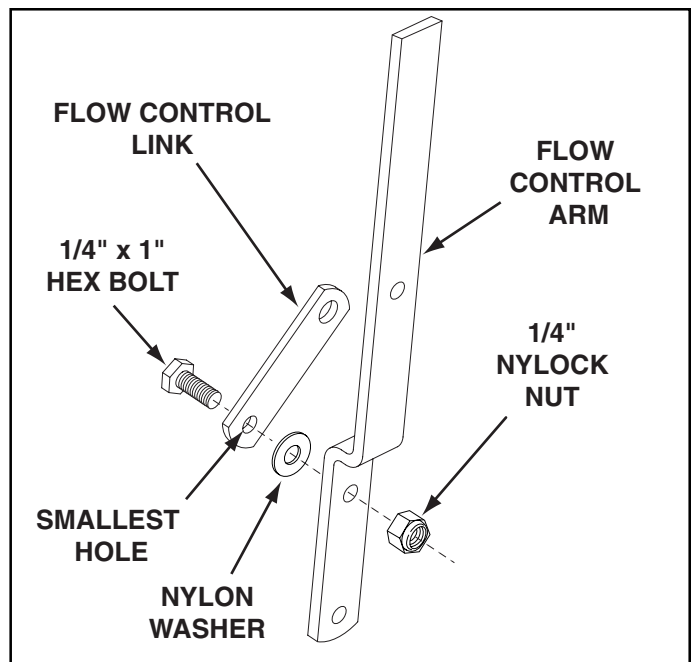

FIGURE 7
- Assemble the flow control link (end with small hole) to the flow control arm using a 1/4" x 1" hex bolt, a nylon washer and a 1/4" nylock nut as shown in figure 7. **Tighten carefully.** The flow control link should not be loose but should pivot with no more than slight resistance.